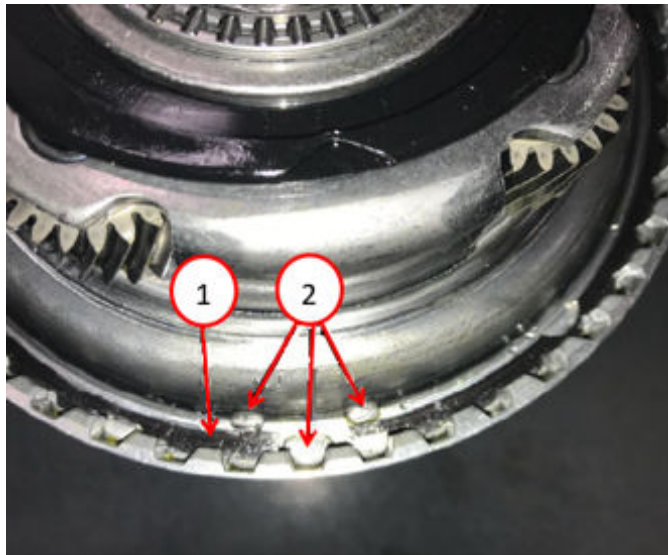

Fig. 23
34. Remove the input shaft with P2 planetary carrier from the drum assembly Fig. 23.